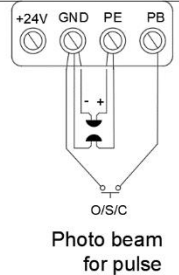
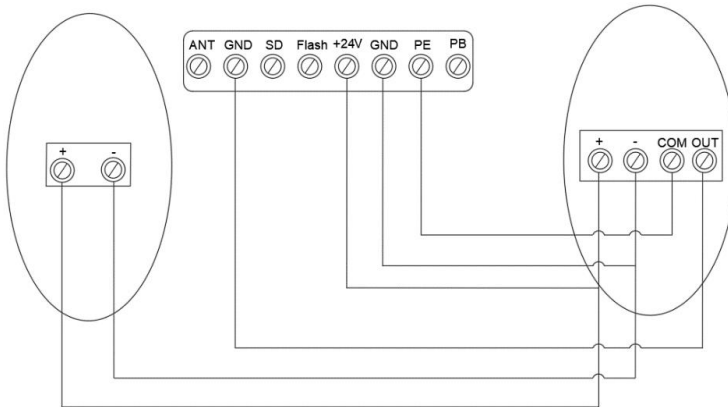

Figure 22
Figure 23
**NOTE:** Make sure the photo cell has been correctly installed and use Normally Closed contacts to the accessory terminals of the opener (Fig.22, Fig.23)
The O/S/C facility can be used for an external push button switch to operate the opener. The switch must have voltage free normally open NC contacts (Fig. 22)
## Photo beam connection (optional) – Fig.22, Fig.23
## Switch control connection (optional) – Fig.22
1. The O/S/C interfaces available. (Fig. 22)